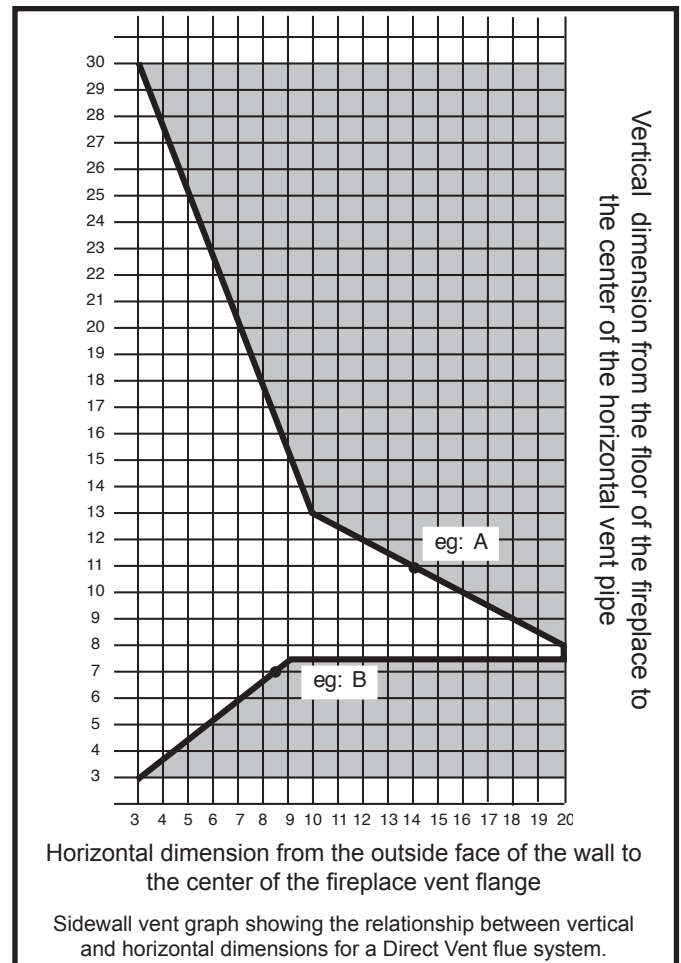

Fig. 13 Sidewall venting graph. (Dimensions in feet)
1. Determine the height of the center of the horizontal vent pipe exiting through the outer wall. Using this dimension on the Sidewall Vent Graph. (Fig. 13) locate the point intersecting with the slanted graph line.